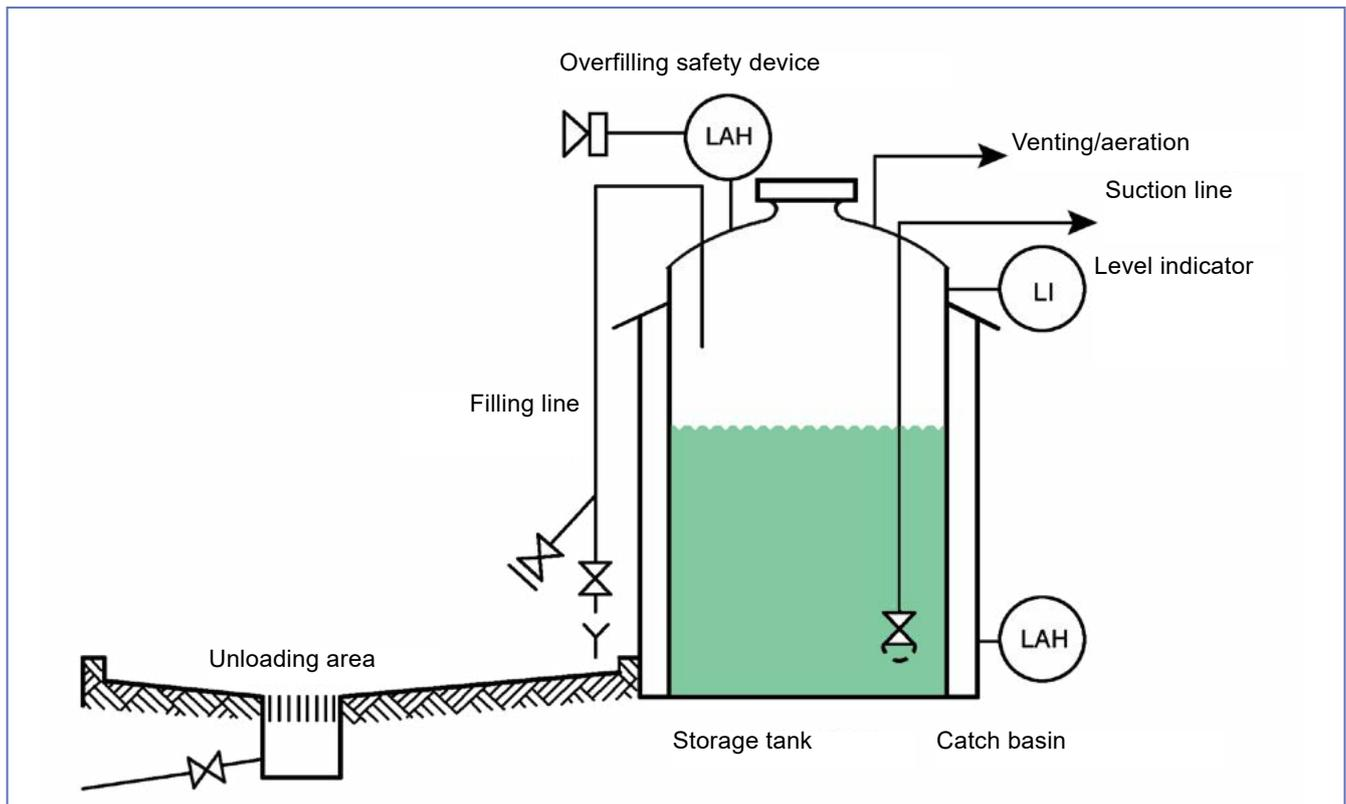

Fig. 1: Storage installation for solutions
The tanks can be of horizontal or vertical design and may be installed in the open or indoors. The diagram of the storage facility on page 2 shows a flat-bottom tank (Fig. 1).
- Integrated catch basin with mark of technical approval (see Figure 1)